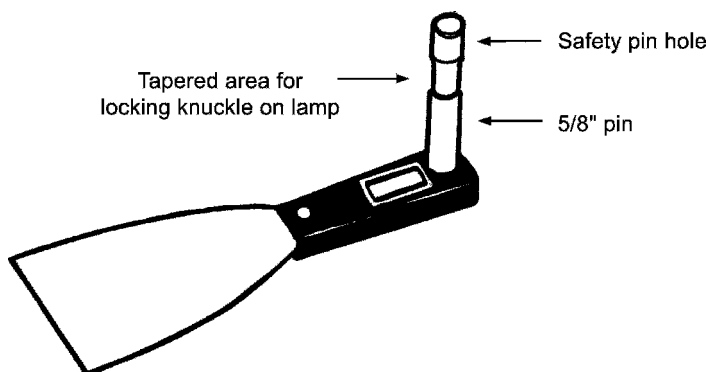

Figure 2.53 Putty knife.
1. The putty knife (Figure 2.53) is designed to place a 5/8-in. pin where it is nearly impossible to put any other mounting brackets.